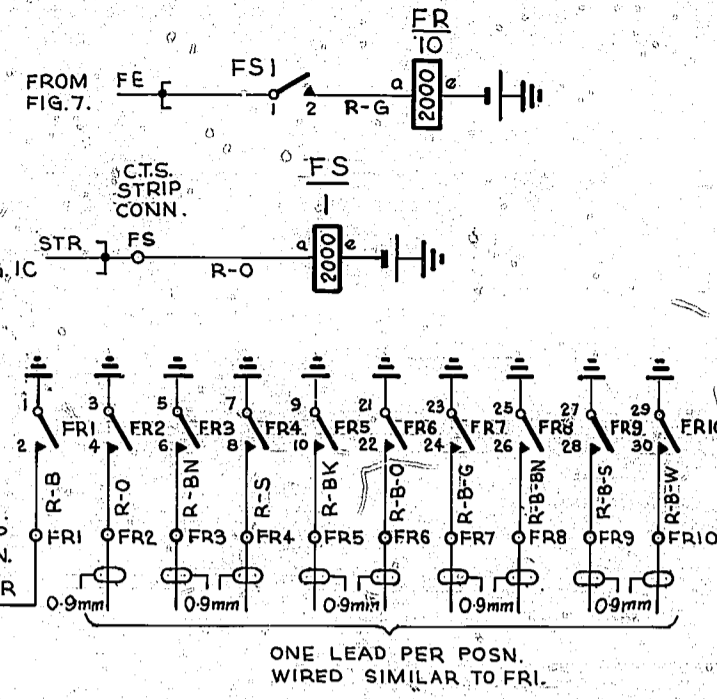

FIG. 10
BATT. FUSE $\frac{BK}{0.9mm} \frac{50V}{0.9mm} BK$ FLAe-FLBe-FLCe-FLDe (FIG. 10),
FLHe-FLGe-FLFe-FLEe (FIG. 10)
-FLA21-23-25-27-29-1-3-5-7-9 ETC. TO } FIG. 10
-FLG21-23-25-27-29-1-3-5-7-9 } FIG. 10